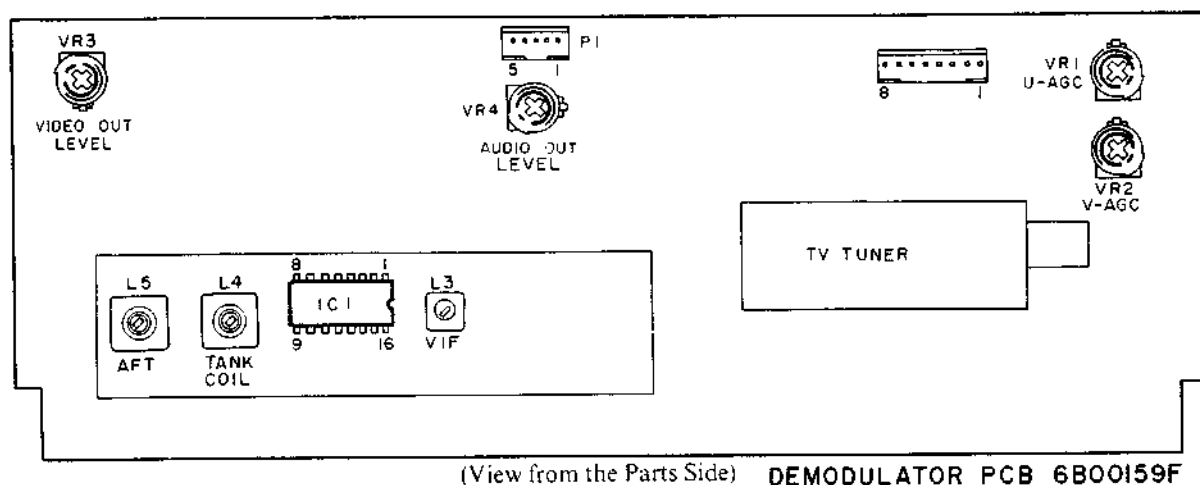
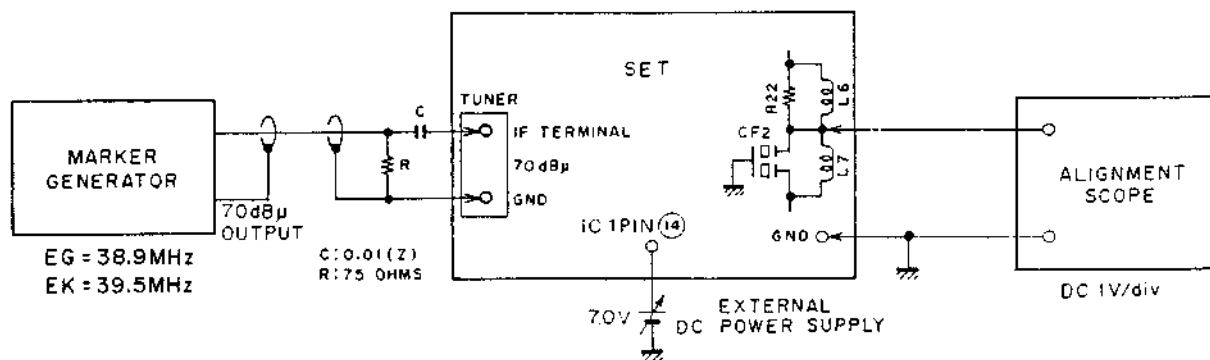

Fig. 8-7 Demodulator PC Board Adjustment point
Fig. 8-9
### 8-6-1. TANK COIL ADJUSTMENT (Refer to Fig. 8-7 to Fig. 8-9)
- Supply 70dB $\mu$  IF frequency (EG = 38.9 MHz, EK = 39.5 MHz) to the IF terminal (Refer to Fig. 8-9).
- Connect the alignment scope as shown in Fig. 8-9.
- Supply DC 7.0V to Pin ⑭ of IC1, from the External DC power supply.